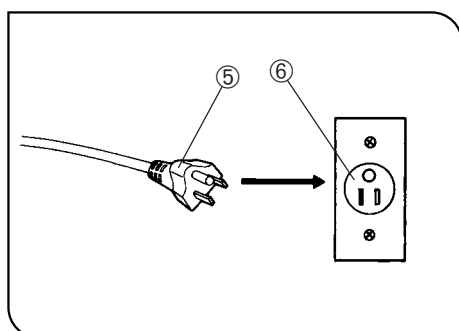

Fig. 37
3. Connect the power cord plug ⑤ to a wall outlet ⑥. (Fig. 37)